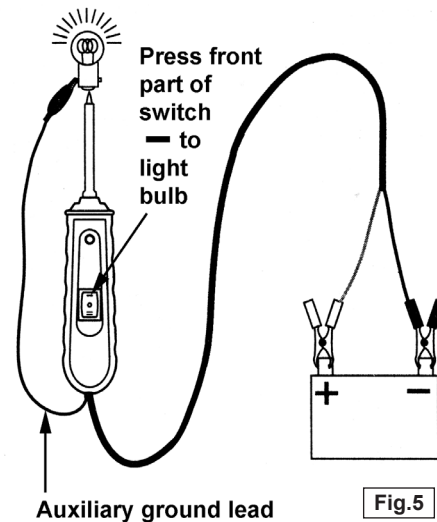

Fig.5
3.6 ACTIVATING COMPONENTS REMOVED FROM THE VEHICLE'S ELECTRICAL SYSTEM. (Such as fuel pumps, starter solenoids, magnetic clutches, blower motors, cooling fans, lights etc.) See Fig.5.